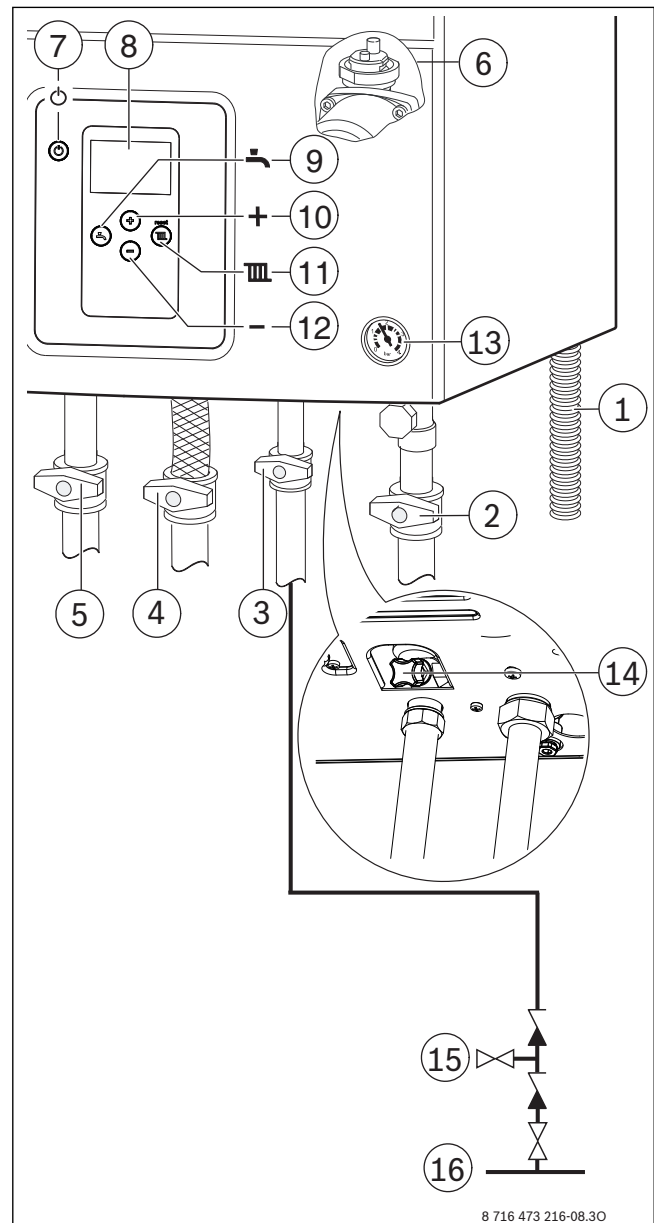

Fig. 17
- ▶ Open the automatic air vent valve (leave open) (→ Fig. 17, [6], page 14).
- ▶ Open the heating flow valve and heating return valve (→ Fig. 17, [5] and [2], page 14).
- ▶ Open the gas valve (→ Fig. 17, [4]).